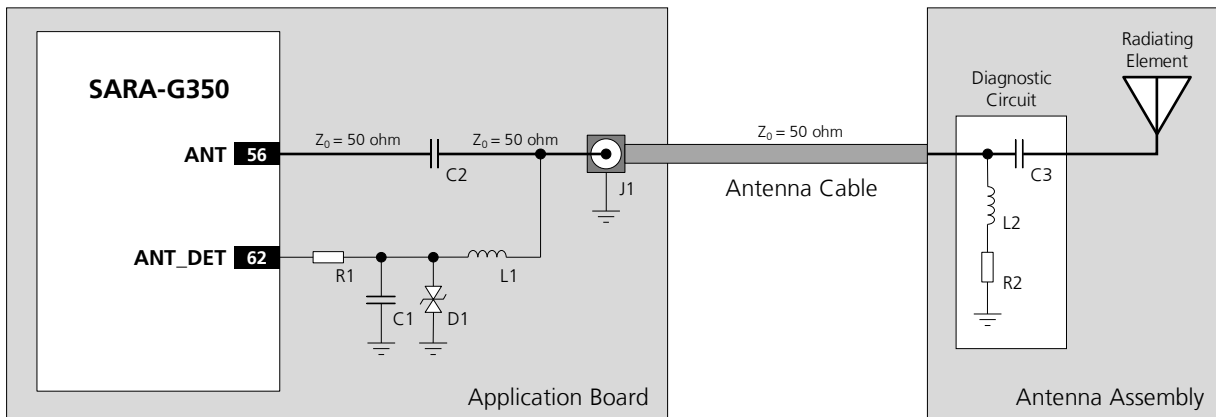
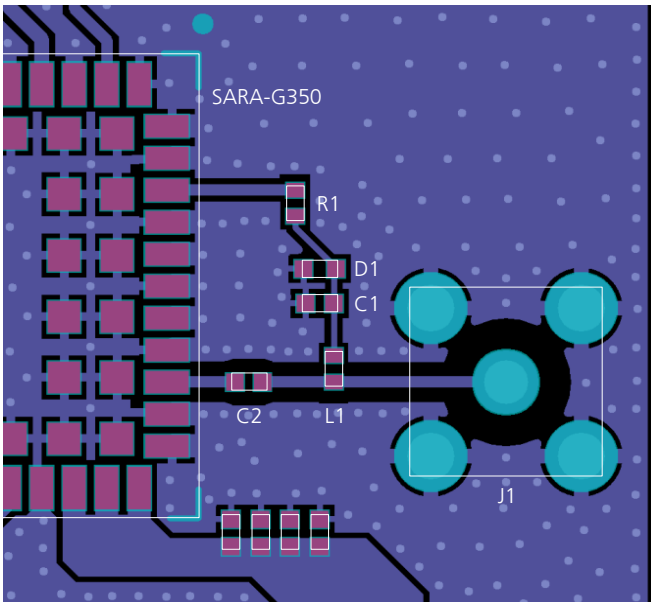

Figure 38: Suggested schematic for antenna detection circuit on application board and diagnostic circuit on antenna assembly
Figure 39: Suggested layout for antenna detection circuit on application board
Figure 38 and Table 22 describe the recommended schematic and components for the antenna detection circuit to be provided on the application board for the diagnostic circuit that must be provided on the antenna assembly to achieve antenna detection functionality.
The antenna detection circuit and diagnostic circuit suggested in Figure 38 and Table 22 are here explained:
- Additional components (R1, C1 and D1 in Figure 38) are needed at the **ANT\_DET** pin as ESD protection
The DC impedance at RF port for some antennas may be a DC open (e.g. linear monopole) or a DC short to reference GND (e.g. PIFA antenna). For those antennas, without the diagnostic circuit of Figure 38, the measured DC resistance is always at the limits of the measurement range (respectively open or short), and there is no mean to distinguish between a defect on antenna path with similar characteristics (respectively: removal of linear antenna or RF cable shorted to GND for PIFA antenna).
Figure 39 describes the recommended layout for the antenna detection circuit to be provided on the application board to achieve antenna detection functionality, implementing the recommended schematic described in Figure 38 and Table 22.
The antenna detection circuit layout suggested in Figure 39 is here explained: